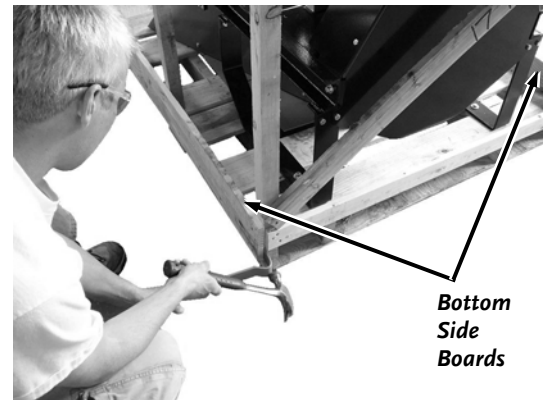

Figure 6
3. Pry off the two bottom side boards that connect the Crate top to the Pallet (*Figure 6*).